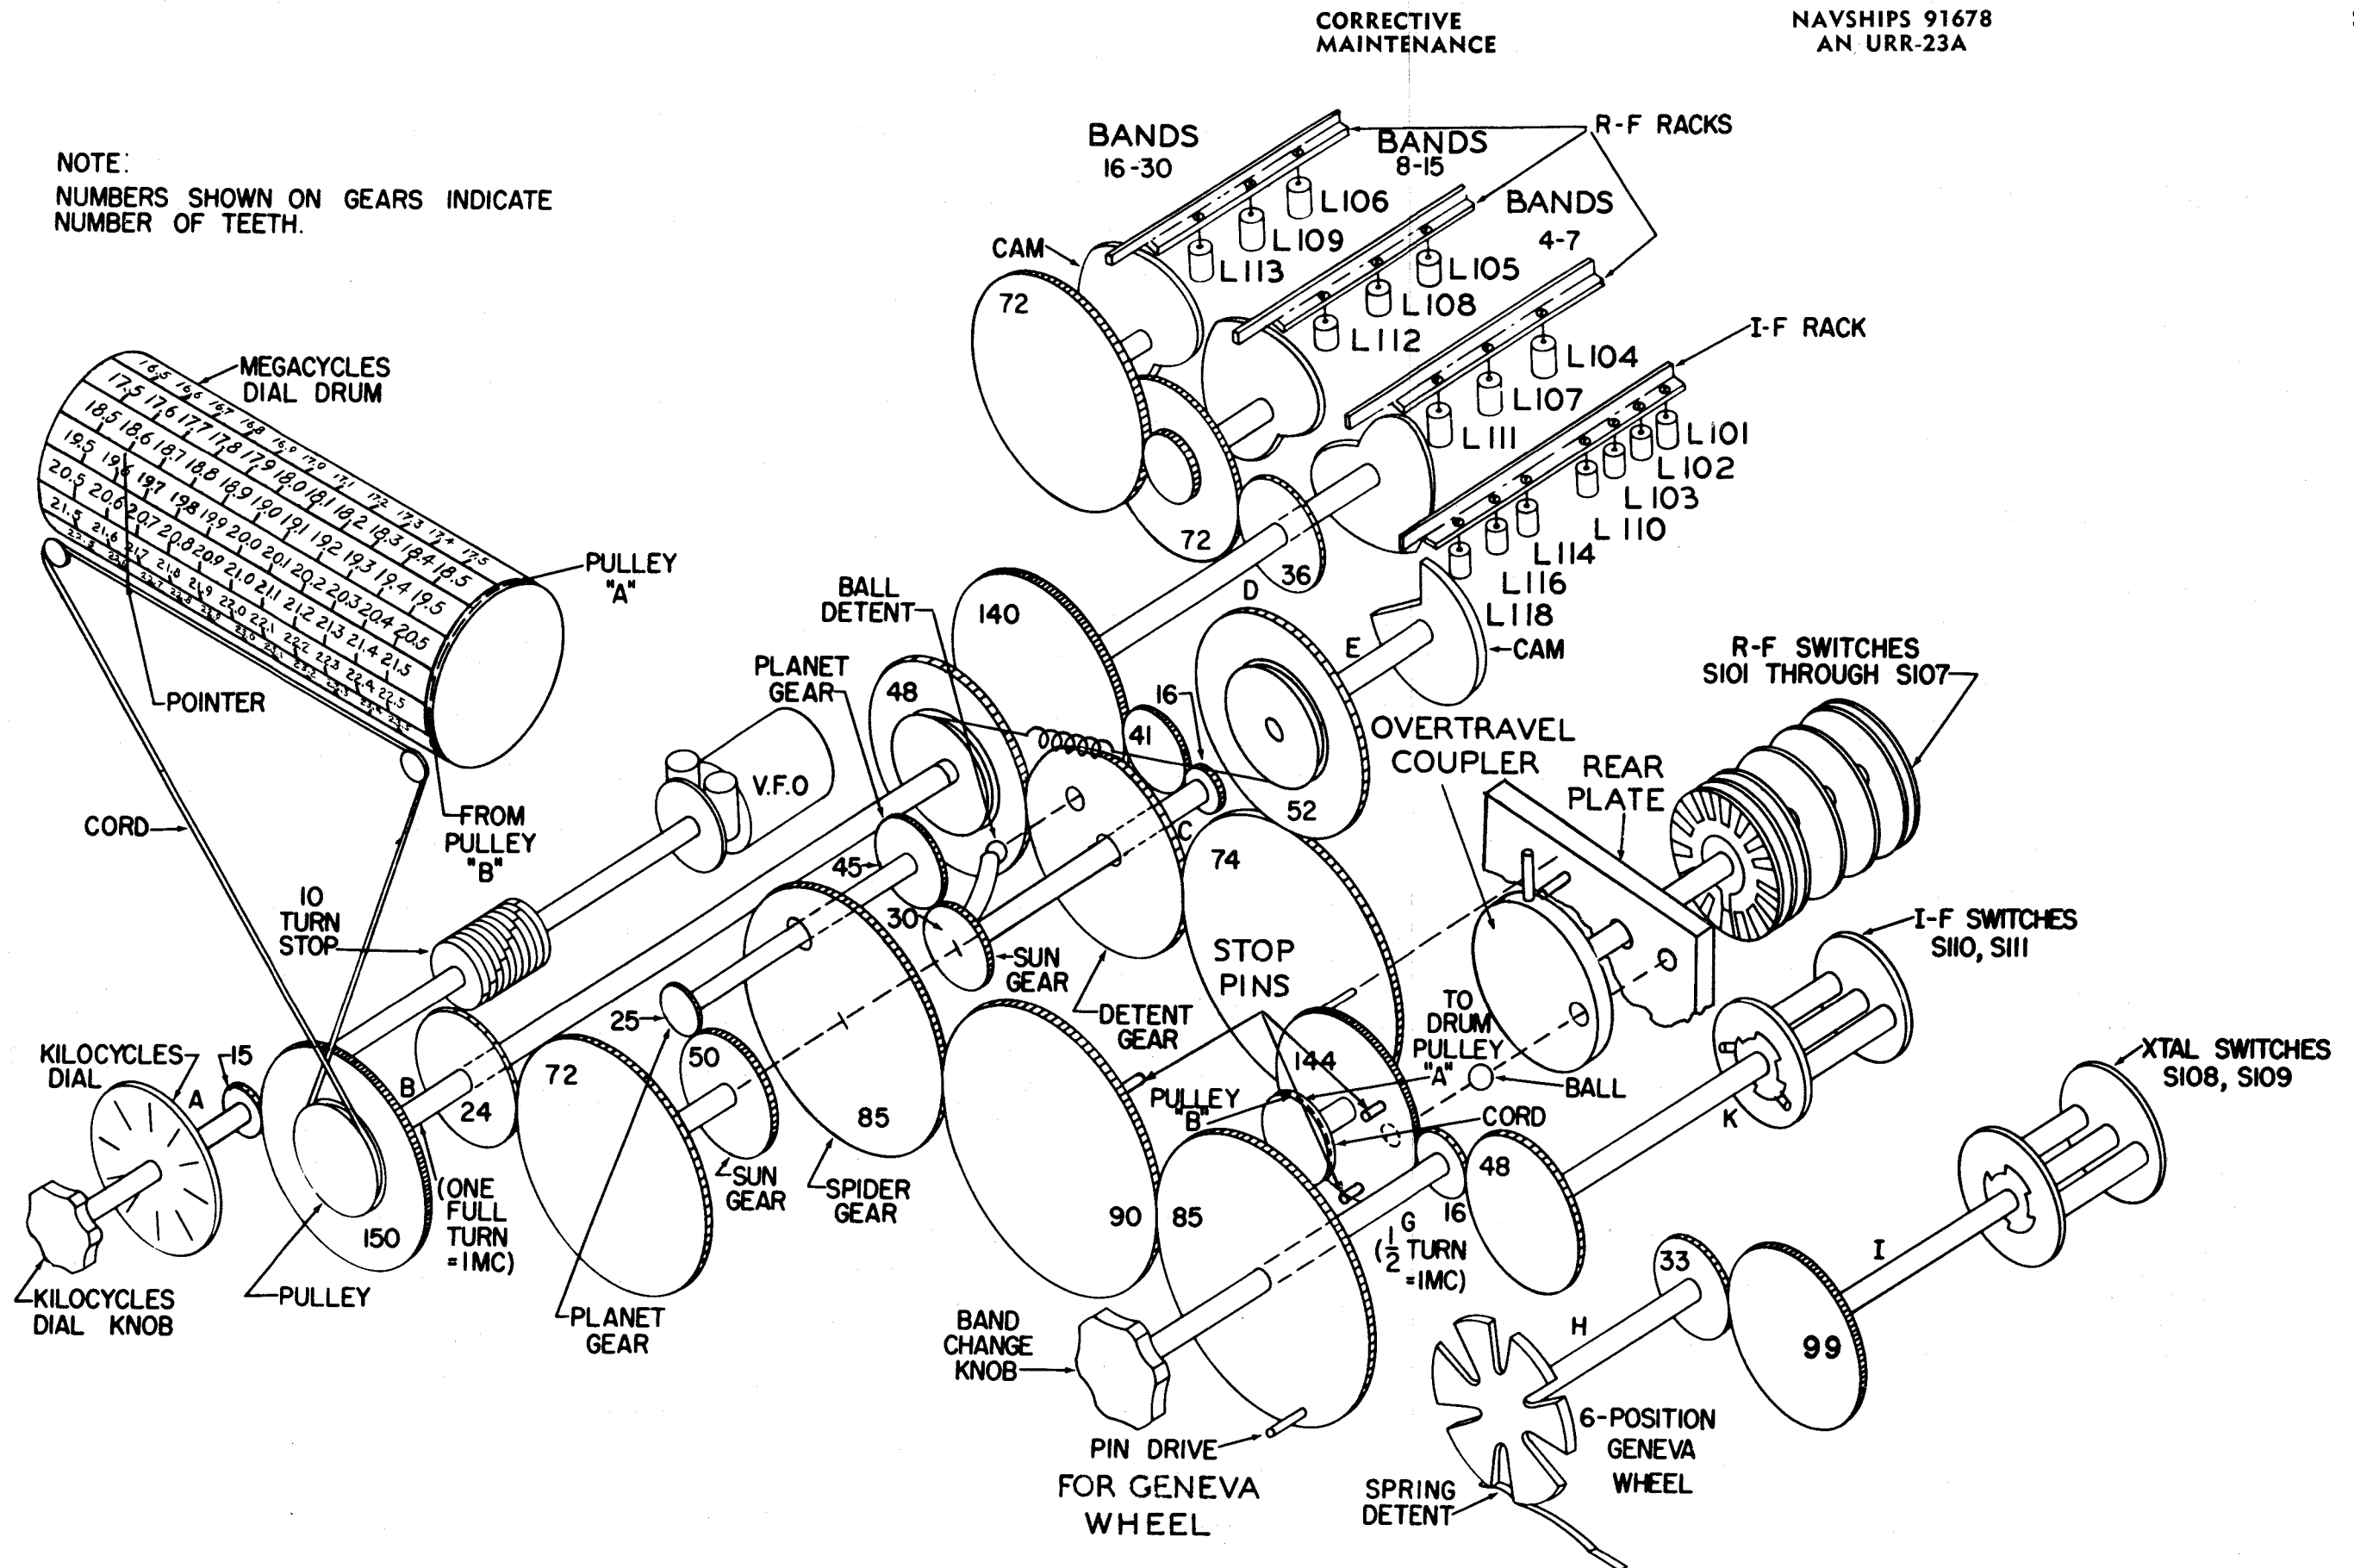

Figure 7-7. Mechanical Functional Diagram
(b) If repairs are to be made in the field, the gear box may either be removed from the receiver or left in, depending on the extent of repairs. If the box is to be removed, turn the MEGACYCLE knob to its clockwise stop and the KILOCYCLE knob to its counterclockwise stop, and follow the instructions in paragraph 6. a. (1)(a); then proceed according to the following steps. If the box is to be left in the receiver, perform steps 1 and 2 under paragraph 6. a. (1)(a); then proceed according to the following steps. Refer to figures 7-7 and 7-8 for location of gears and shafts.
2. When shaft G is turned counterclockwise $7\frac{1}{2}$ revolutions, or 15 detent positions from the first detent position, the pin in the 144-tooth gear on shaft H (figure 7-8), and the radial pin on the overtravel disc rotate clockwise until the radial pin just touches or is about to touch the pin in the rear gear panel. Further rotation of shaft G causes the pin in the gear to leave the radial pin that was stopped by the pin in the rear gear panel. Thus the overtravel coupler output shaft, which drives r-f switches S101 through S107 (figure 7-7), rotates 300° for the first 16 detent positions of shaft G and remains at that setting for further counterclockwise rotation of shaft G.